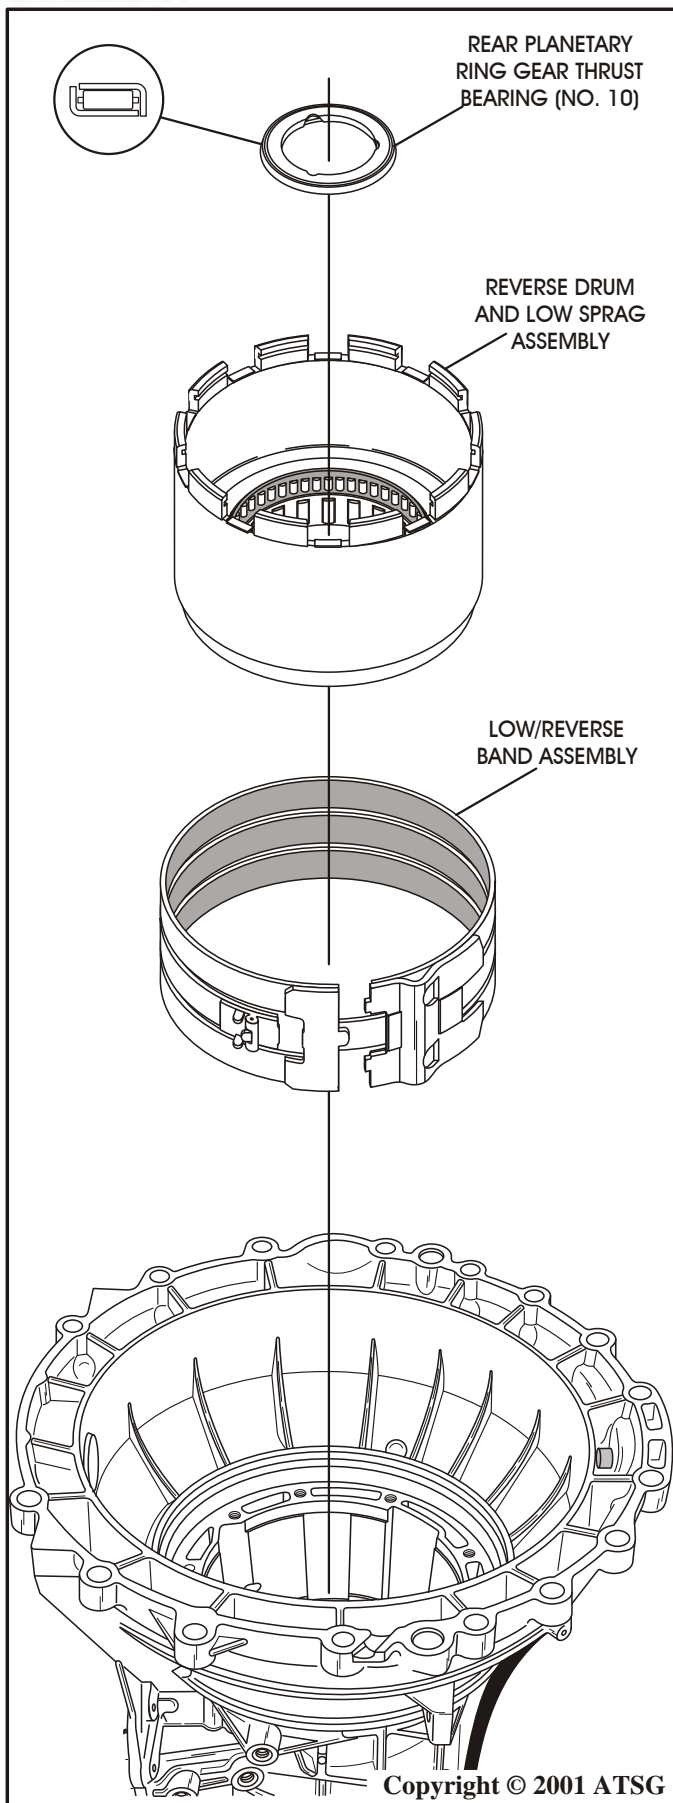

Figure 141
1. Rotate transmission in fixture so that front of case is facing up, as shown in Figure 141.
2. Install the reverse band into transmission, as shown in Figure 141, ensuring that it engages on the band anchor lugs in the case.
4. Install reverse drum and low sprag assembly into the reverse band, as shown in Figure 141, by rotating in a clock-wise direction.
5. Install rear planetary ring gear thrust bearing (Number 10) into the case in direction shown in Figure 141.